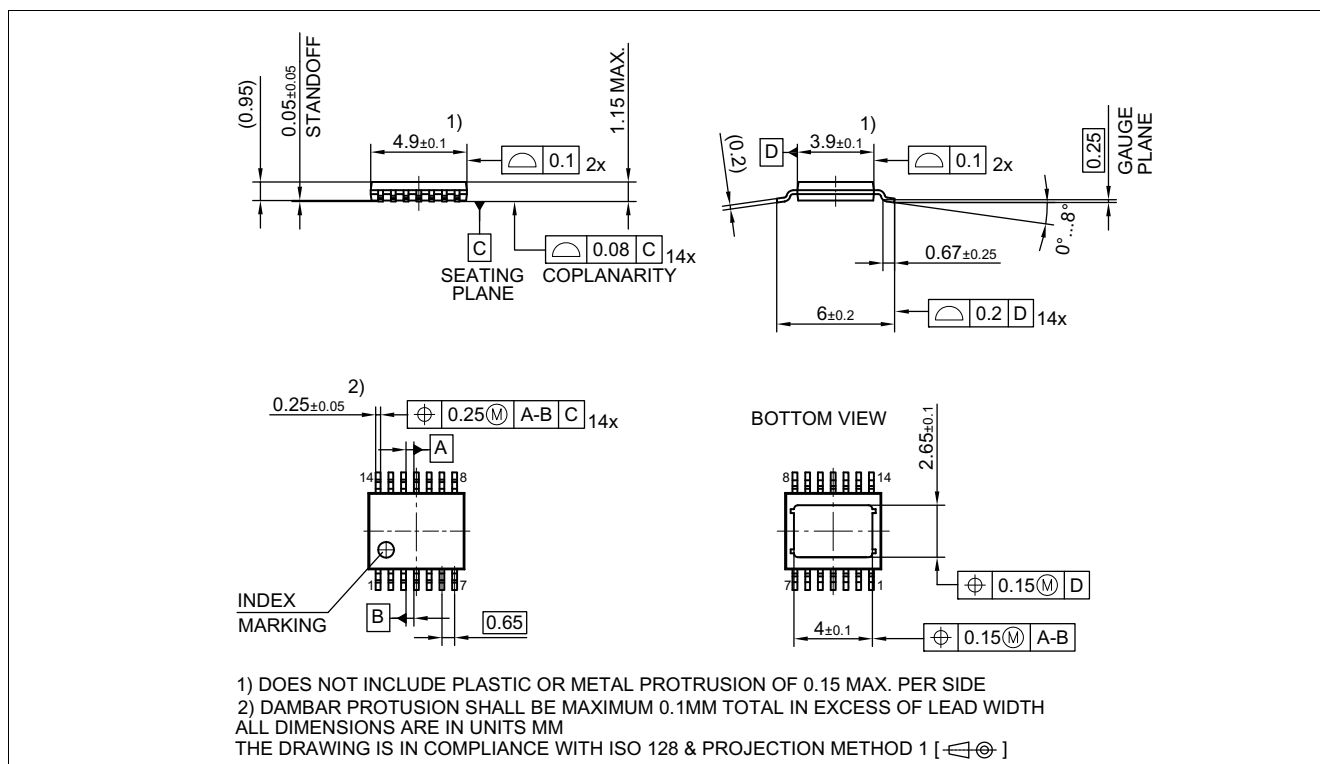
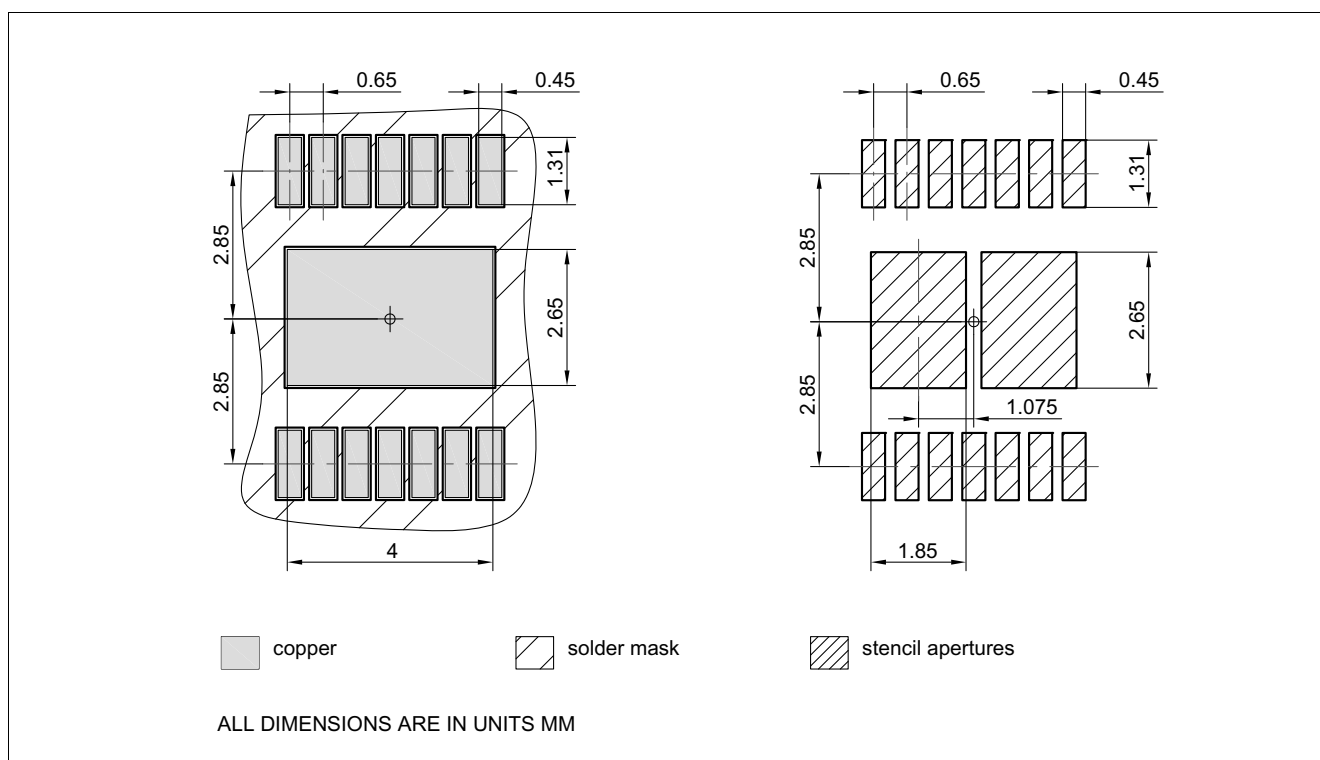

Figure 44 PG-TSDSO-14 (Thin (Slim) Dual Small Outline 14 pins) Package Outline
Figure 45 PG-TSDSO-14 (Thin (Slim) Dual Small Outline 14 pins) Package pads and stencil
1.13 , 2019-06-26	Chapter 9.2 updated ($2\text{ V} \rightarrow V_{\text{DS(OLOFF)}}$) Chapter 8.2 updated General: updated (ReverSave™ → ReverseON) Chapter 1 updated ((inserted headline "Product Validation"), (Qualified in accordance with AEC Q100 grade 1 → Qualified for automotive applications. Product validation according to AEC-Q100 Grade 1.)) General: updated Product Name (PROFET™+2 → PROFET™+2 12V) Page 1: updated figure product Table 24 updated punctuation Chapter 9.3.1 updated (typo) Page 1: updated (Package PG-TSDSO-14-22 → Package PG-TSDSO-14) Figure 29 updated Figure 44 updated (PG-TSDSO-14-22 (Thin (Slim) Dual Small Outline 14 pins) Package Outline → PG-TSDSO-14 (Thin (Slim) Dual Small Outline 14 pins) Package Outline) Figure 45 updated (PG-TSDSO-14-22 (Thin (Slim) Dual Small Outline 14 pins) Package pads and stencil → PG-TSDSO-14 (Thin (Slim) Dual Small Outline 14 pins) Package pads and stencil) Table 1 updated ((Symbol: $I_{\text{VS(SLEEP)}}$ → $I_{\text{VS(SLEEP)_85}}$), (Parameter: Minimum Overvoltage protection ($T_J = 25\text{ °C}$) → Minimum Overvoltage protection ($T_J \geq 25\text{ °C}$)) P_9.6.0.6 updated (Note or Test Condition: removed unnecessary line-break)
Rev. 1.10, 2017-10-24	P_7.5.1.6 updated (test condition: $R_{\text{SENSE}} = 1.2 \text{ k}\Omega$ added) P_7.5.1.7 updated (max: 22 $\rightarrow$ 33 mΩ) P_7.5.1.7 updated (test condition: $R_{\text{SENSE}} = 1.2 \text{ k}\Omega$ added) Figure 16 updated ($dV_{\text{ON}}/dt \rightarrow (dV/dt)_{\text{ON}}$, $(dV_{\text{OFF}}/dt \rightarrow -(dV/dt)_{\text{OFF}})$) Chapter 7.3.3 updated P_8.6.0.1 updated (max: 220 $\rightarrow$ 200 °C) P_8.6.0.8 updated typo ("Overcurrent" $\rightarrow$ "Overcurrent") P_9.6.0.1 removed P_9.6.0.13, P_9.6.0.14 added P_9.6.0.6 updated ($I_L \leq 2 * I_{L(\text{NOM})} \rightarrow I_L \leq 1.2 * I_{L(\text{NOM})}$) P_9.6.0.6 updated ($V_{\text{IS(RANGE)}} \rightarrow V_{\text{SIS}}$) P_9.6.0.7, P_9.6.0.8 updated ($V_{\text{IS(RANGE)}} \rightarrow V_{\text{SIS}}$) P_9.6.0.7, P_9.6.0.8 updated ($V_{\text{IS(RANGE)}} \rightarrow V_{\text{SIS}}$) P_9.6.0.9 updated (symbol: $V_{\text{IS(CLAMP)}_{-40}} \rightarrow V_{\text{SIS(CLAMP)}_{-40}}$) P_9.6.1.14 updated (min: 50 $\rightarrow$ - μs, test condition: "DEN = "high" from Load Change to $I_{\text{IS}} = I_L / (k_{\text{ILIS,MIN}} @ I_L) * 1.1$ from $I_L = I_{L(\text{CAL})}$ to $I_L = I_{L(\text{CAL_OL})}$" $\rightarrow$ "DEN = "high" from Load Change to $I_{\text{IS}} = I_L / (k_{\text{ILIS}} @ I_L)$ from $I_{L(\text{CAL})}$ to $I_{L(\text{CAL_OL})}$") P_9.6.0.10 updated (symbol and name: $V_{\text{IS(CLAMP)}_{25}} \rightarrow V_{\text{SIS(CLAMP)}_{25}}$ and $T_J = 25 \text{ }^\circ\text{C} \rightarrow T_J \geq 25 \text{ }^\circ\text{C}$) Table 24 updated (R_{DSEL} included) Figure 44 updated Figure 45 updated